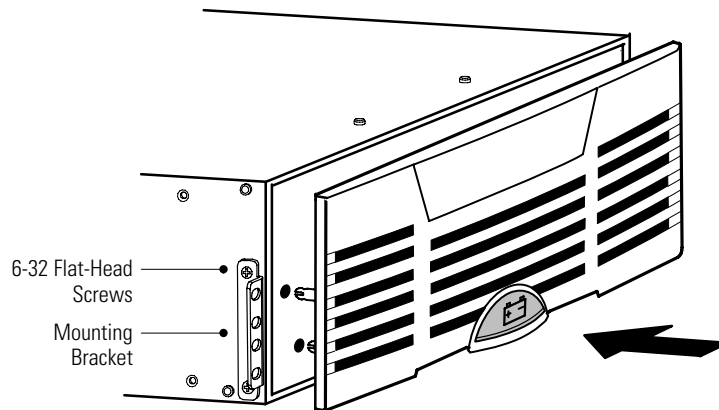

Figure 6. Installing the EBM Mounting Brackets
8. If the mounting brackets are not already installed, align the two mounting brackets with the screw holes on the side of the EBM and secure with the supplied 6-32 flat-head screws (see Figure 6).
Align the pins on the rear of the front cover with the openings in the EBM. Push the cover firmly into place. See Figure 6.